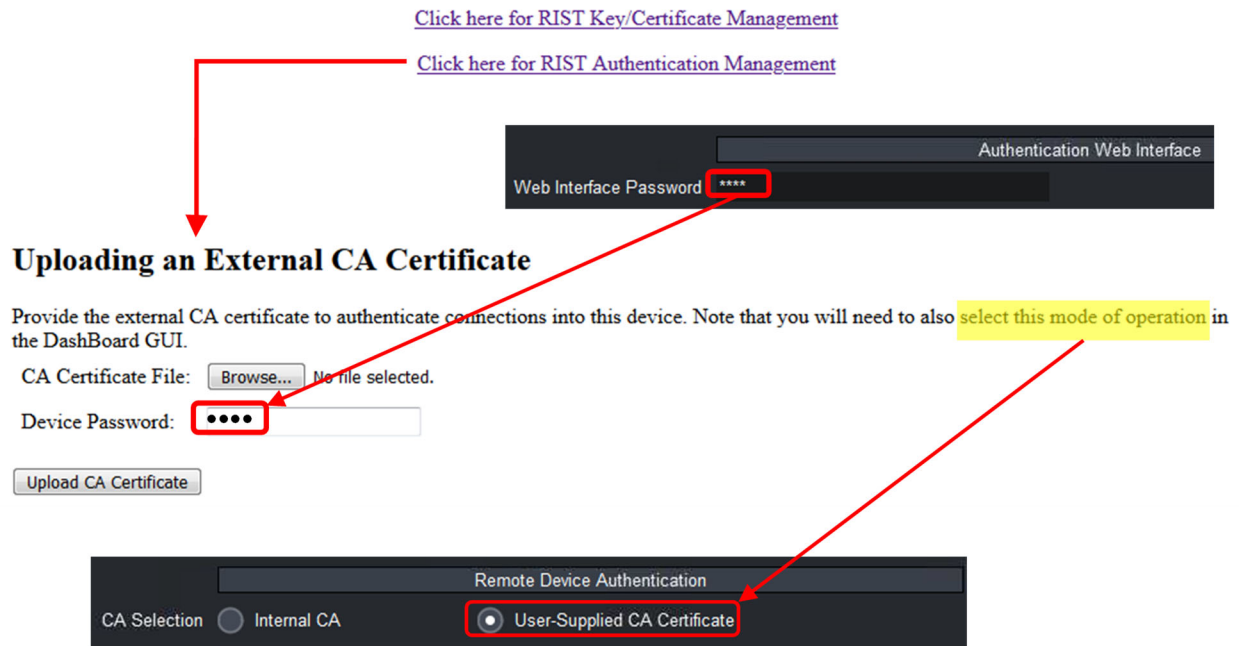

Figure 9: Uploading an External CA Certificate
2. Load the CA Certificate in every Cobalt device. Figure 9 shows how to do this.
The process of loading an external CA certificate in the Cobalt device (Step 2) is shown in Figure 9:
The device will check out the certificate for correctness and validity, and, if accepted, will save it. If the certificate is accepted, it can now be selected in DashBoard, as shown in Figure 9.
Figure 13 shows how to obtain the device's internal CA certificate for Step 2. No password is needed because the certificate does not need to be kept confidential. Use the process shown in Figure 9 to install the CA certificate in each Cobalt device.
If you intend to use this as the CA for Cobalt devices, upload the **CA_CERT.PEM** file using the procedure illustrated in Figure 9.